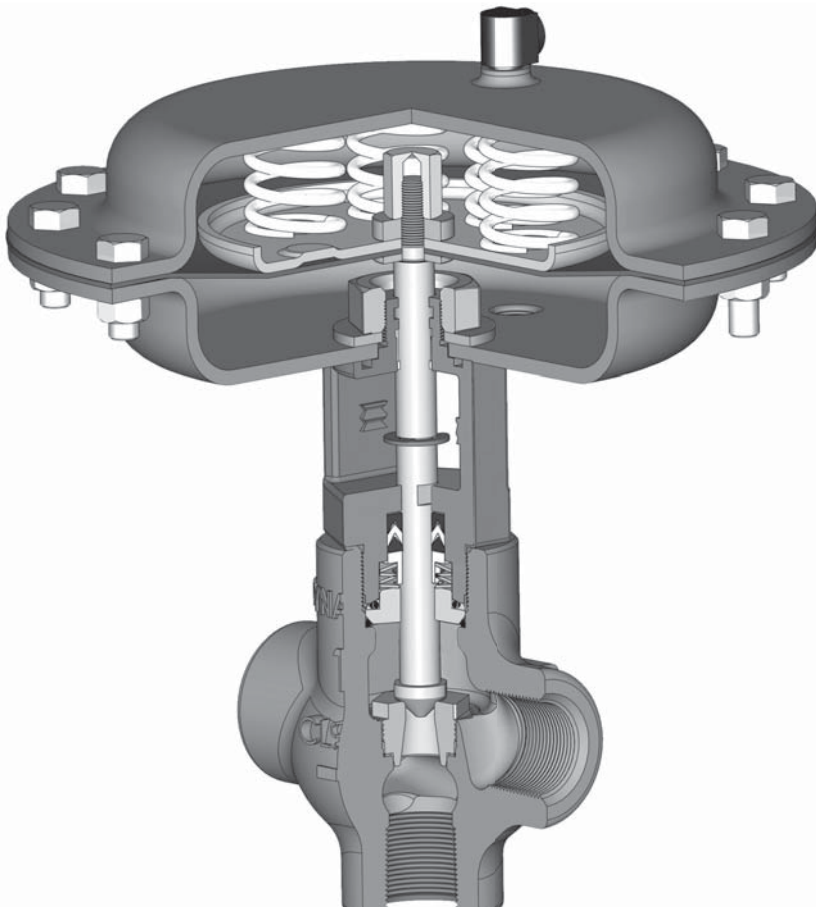

Figure 8
- 8 Slide the diaphragm plate (Key 20) over the stem so that it rests with the flat face against the diaphragm. Reference Figure 8 for correct diaphragm plate placement.